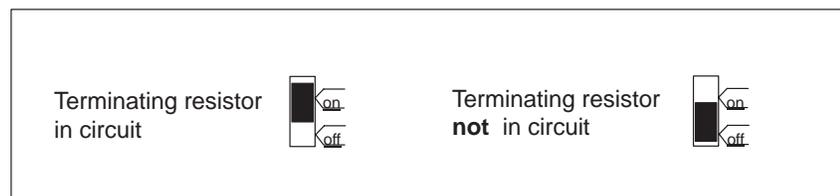

Figure 5-14 Bus connector (6ES7 972-0B.10 ... and 6ES7 972-0B.20 ... ): positions of switch for terminating resistor in circuit or not in circuit
3. If the bus connector is at the start or end of a segment, you must activate the terminating resistor (set switch to “ON”) (see Fig. 5-14).